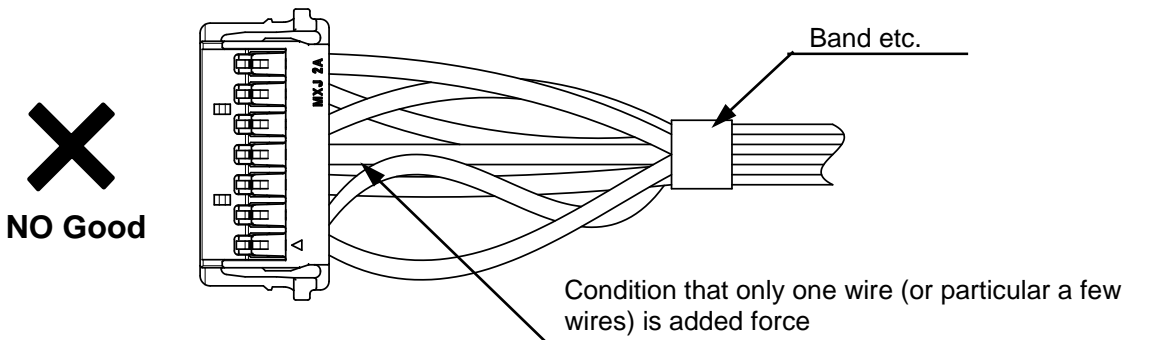

Fig.7-2 Condition that harness is banding improperly
- ② Concerning harness, please consider that only one wire (or particular a few wires) is not added force. (Fig.7-2)